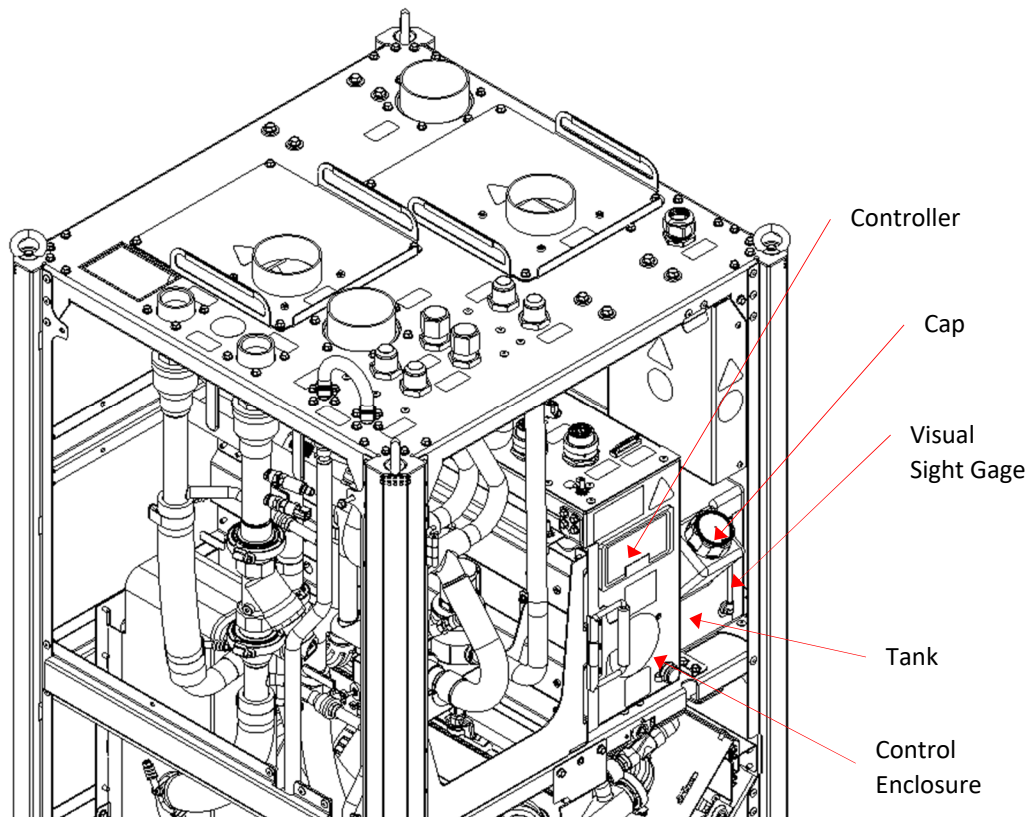

Figure 2-30: ICC Controller and Tank Location
1. Ensure that incoming power connections have been installed according to 2.3.9.2 then turn on main incoming power from the Power Distribution Unit. This will automatically power the ICC and turn on the controller (refer to Figure 2-30). A lit screen indicates that the controller is powered, and power is present to the ICC.
to Figure 2-19) and all circuit breakers in the Control Enclosure (refer to Figure 2-30) are closed/turned on.
6. Locate the tank Cap and uninstall it (refer to Figure 2-30).